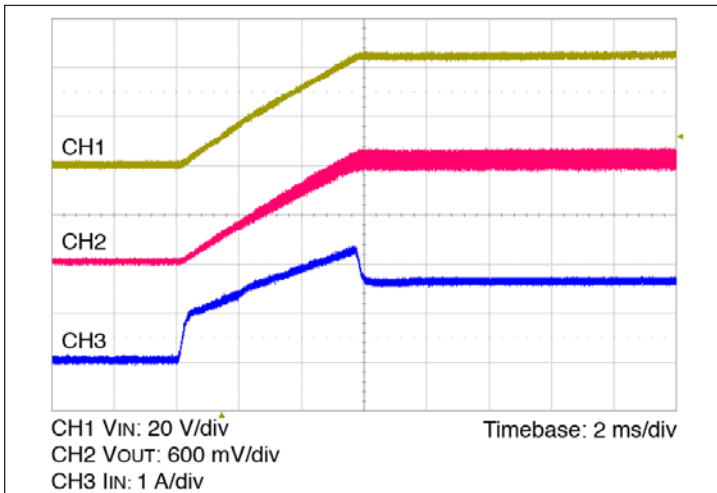

Figure 13 — Start up from application of V_{IN} ; VC pre-applied $C_{OUT} = 0 \mu\text{F}$
- Normal Operation (VC applied prior to V_{IN}): In this case the controller is active prior to ramping the input. When the input voltage is applied, the VTM module output voltage will track the input (See Figure 13). The inrush current is determined by the input voltage rate of rise and output capacitance. If the VC voltage is removed prior to the input reaching 26 V, the module may shut down.